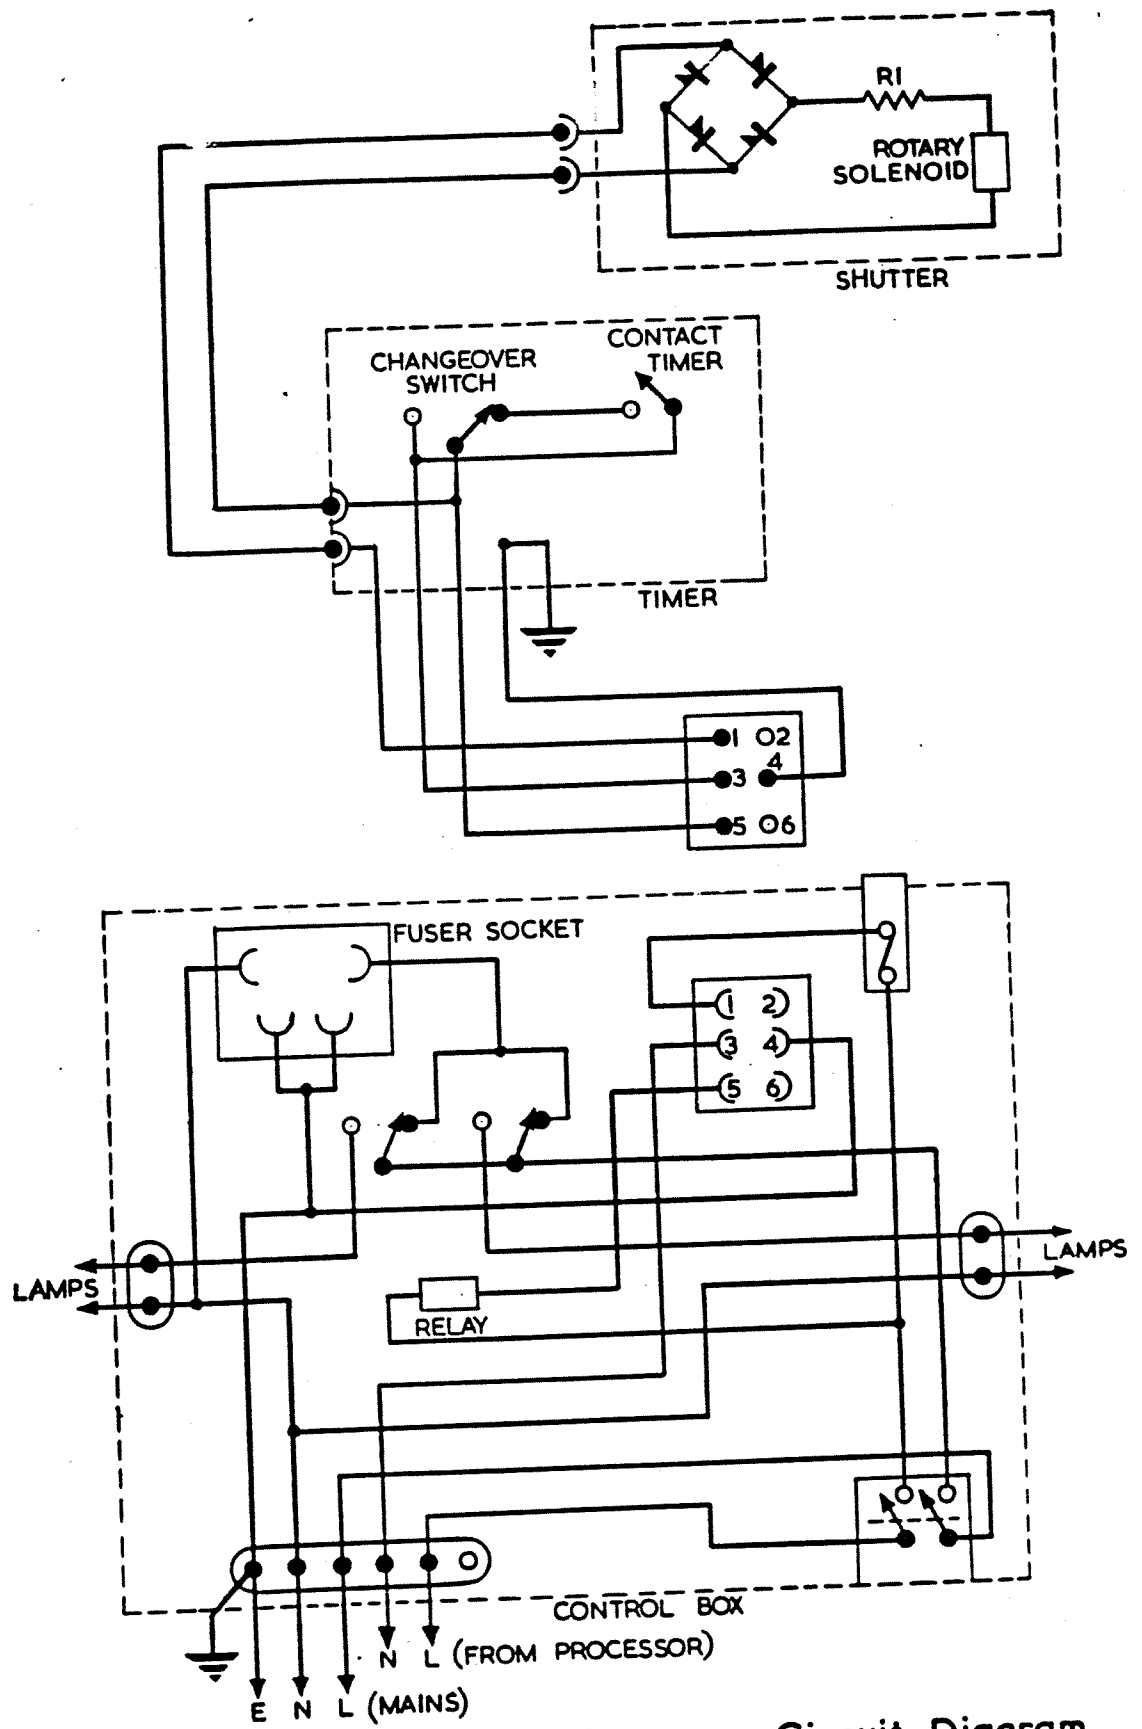

Fig 2B-2. 1385 V.R. Camera - Circuit Diagram.
1. Remove all packing material and set up the camera on a level table or bench approximately 5' (1.5m) long by 2'3" (70 cm) wide by 2'6" (76 cm) high. Ensuring that the base plate, Fig. 2B-3, is flat on the table. Insert and tighten the four main bolts. Next mount the copyboard:-